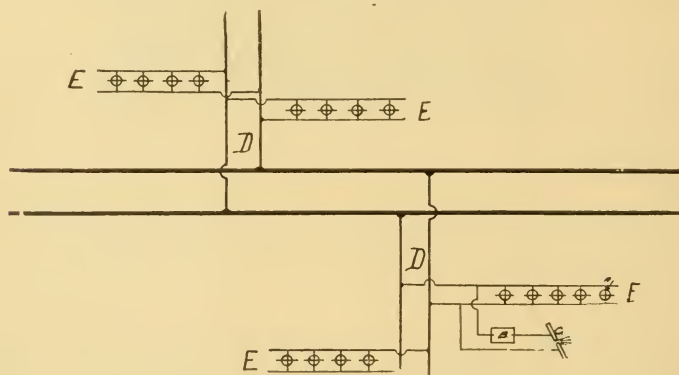

FIGURE 16
(33) Fundamentally all circuits are of the 2-wire type. A 2-wire system is illustrated in Fig. 16. It con-
sists of two wires which form the mains from which current is distributed on auxiliary 2-wire circuits. These, in their turn, serve circuits within buildings as shown at EEEE, Fig. 16, which also shows a projection lamp